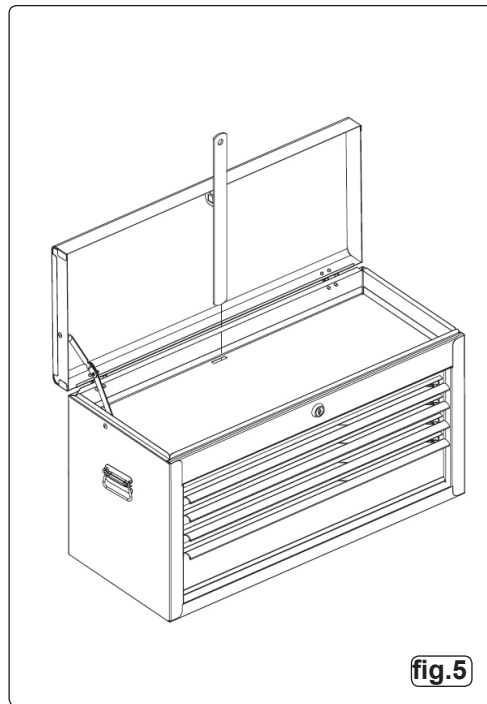

fig.5
- 6.1. Periodically lubricate the drawer slides (fig.5).